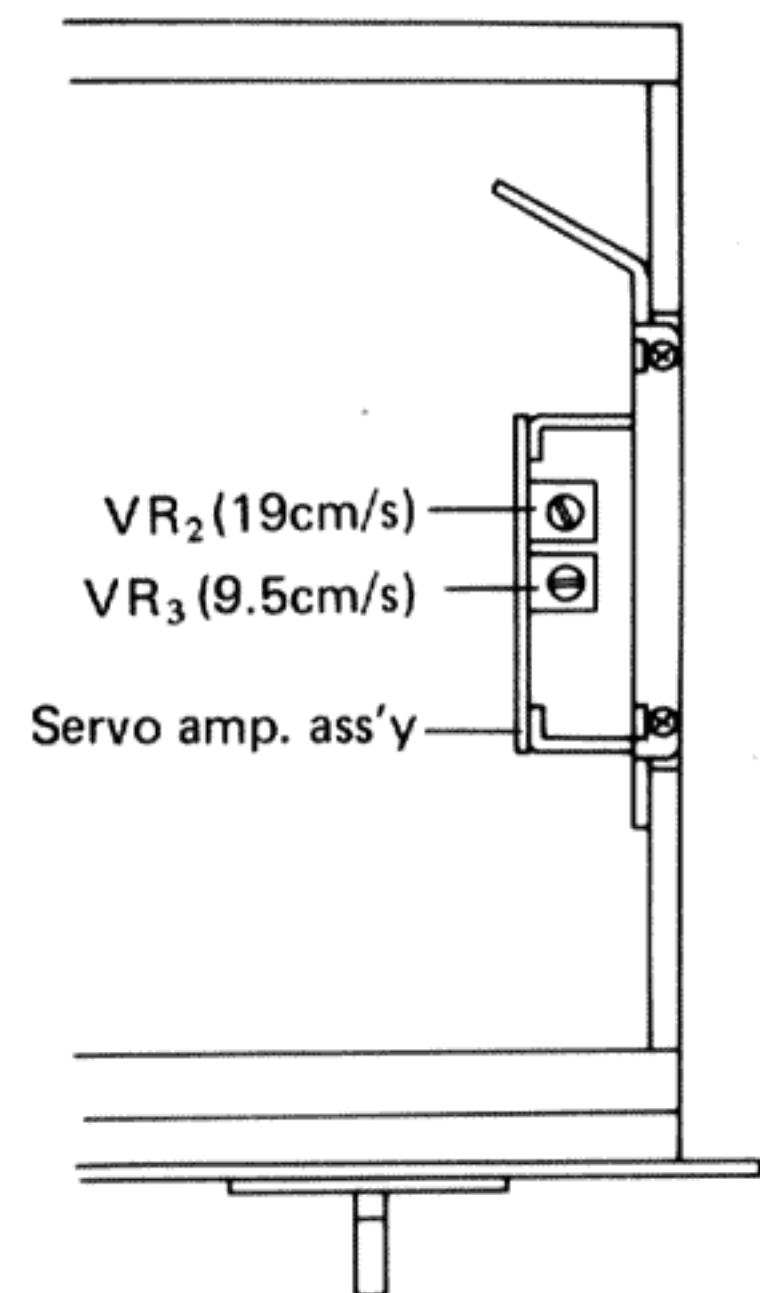

Fig. 29
2. Adjust VR₂ (2k Ω) of the Servo amp ass'y of Fig. 29 so that this value becomes 3,000Hz/s.
2. Adjust VR₃ (2k Ω) in the Servo amp ass'y of Fig. 29 so that this frequency becomes 1,500Hz/s.